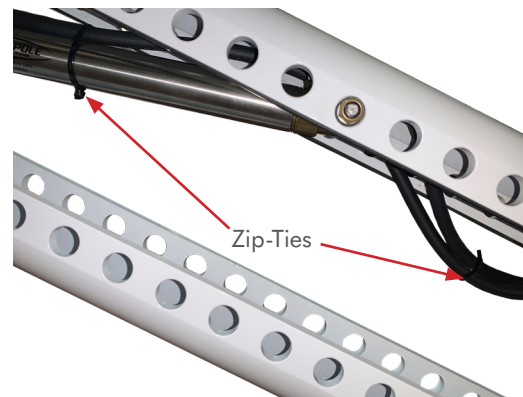

Figure 8
STEP 4 Cut both **Zip-Ties**. **FIG 8**
STEP 6 Secure the **UP & DOWN Hydraulic Hoses** together about 4" to 5" from the bottom of **Hydraulic Cylinder** and around 4" to 5" up the cylinder using **Zip-Ties**. **FIG 8**